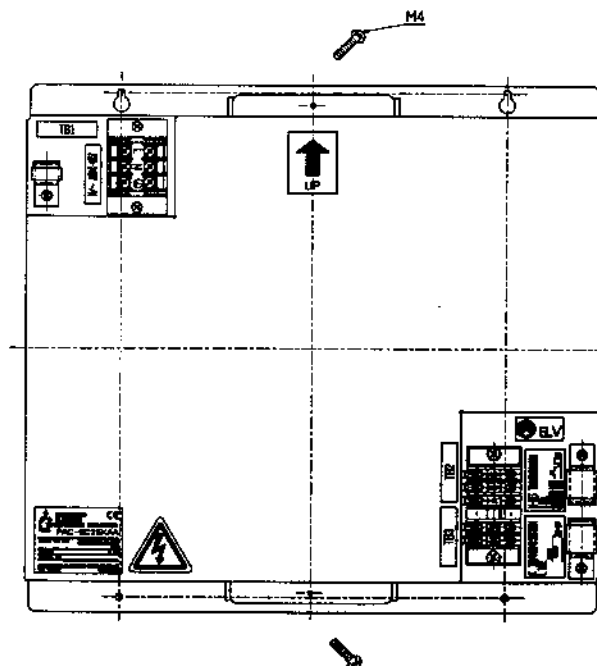

Fig.5-1
(1) Remove the screw(2pcs) holding the cover to dismount the cover as shown in the Fig.5-1